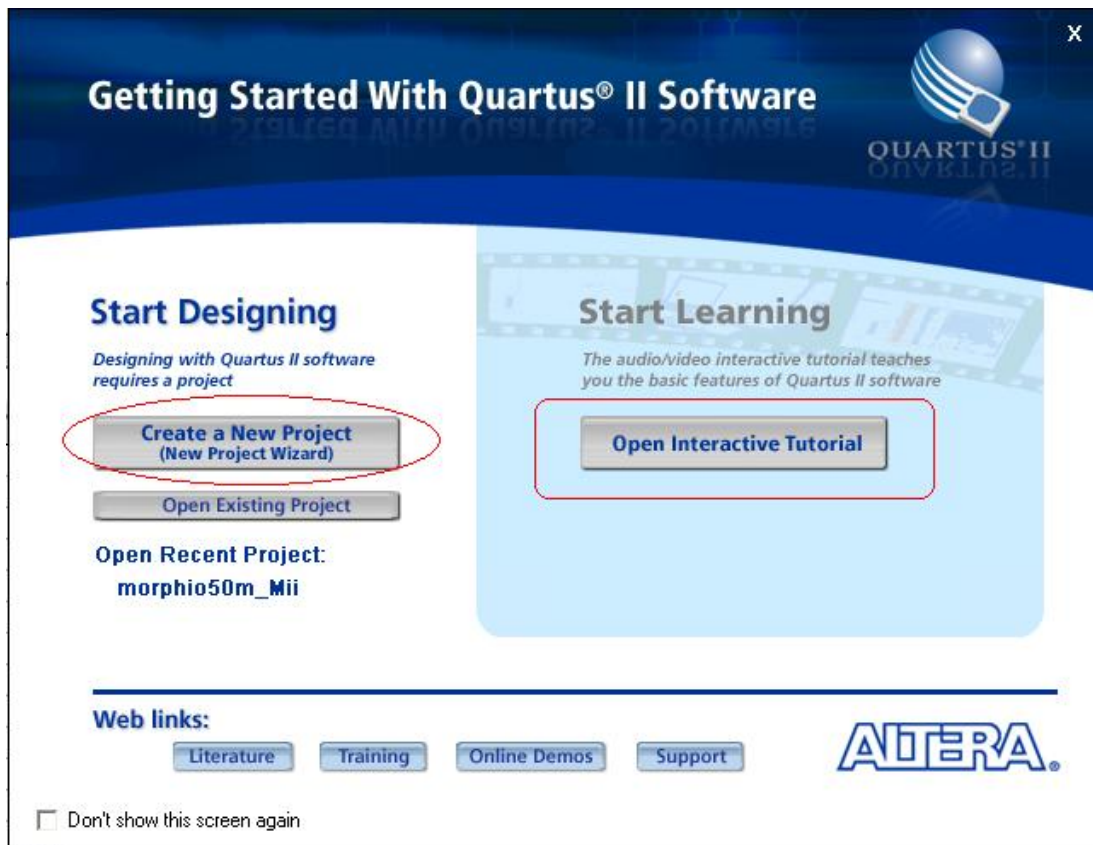

Fig. 1 – Quartus-II Introduction Window
Step 1: Run the Quartus-II application. The first time Quartus-II is opened the screen-shot shown in Fig. 1 will be displayed. To configure a new project click "Create a New Project (New Project Wizard)" The start-up screen also gives the option of taking an interactive tutorial. This tutorial gives a step by step guide on how to carry out core design tasks using Quartus-II. It is recommended for new users to experiment with this tutorial from Altera.